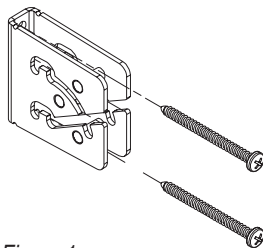

Figure 1
- ① Mark wall for placement of mounting brackets. The brackets must be located so the FlexWave will be mounted perfectly level.
- ② Drill small starter holes in mounting surface.
- ③ Mount brackets using appropriate fasteners for surface (see Fig. 1). Hold brackets level and plumb while mounting. Once brackets are mounted verify they are plumb, level, and flush with the mounting surface. Bracket may need to be shimmed to ensure it is level and plumb. **The installer is responsible for selecting mounting hardware appropriate for site conditions.**